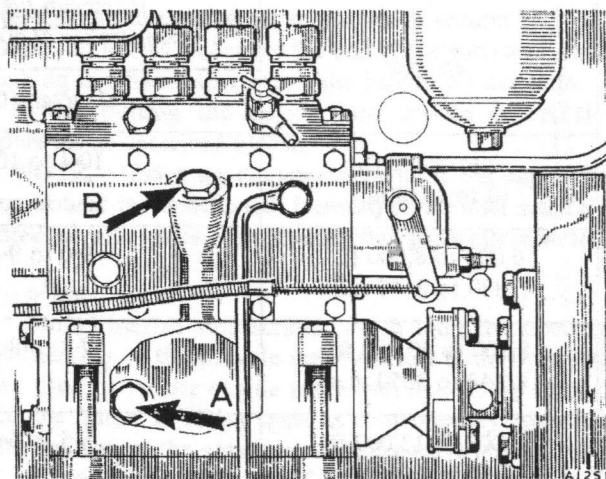

Fig. DD.12
Before putting a new four-element fuel injection pump into service remove the plugs from apertures (A) and (B) illustrated in Fig. DD.12, which shows the first stage modification injection pump. Pour engine oil (Ref. A, page P.6) via (B) until the oil emerges from (A). This procedure is to ensure that oil has reached the cam box, since the oil passage through the tappets is restricted and oil will flow through very slowly (if the plug is left in